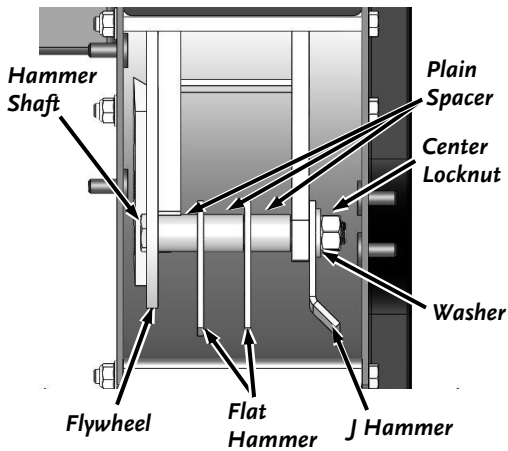

Figure 27a (PRO 420)
4. Align one of the Hammer Shafts with the Chipper Chute Access Hole (**Figure 27a or 27b**). Carefully note the orientation of each Hammer on the Hammer Shaft you are working on.